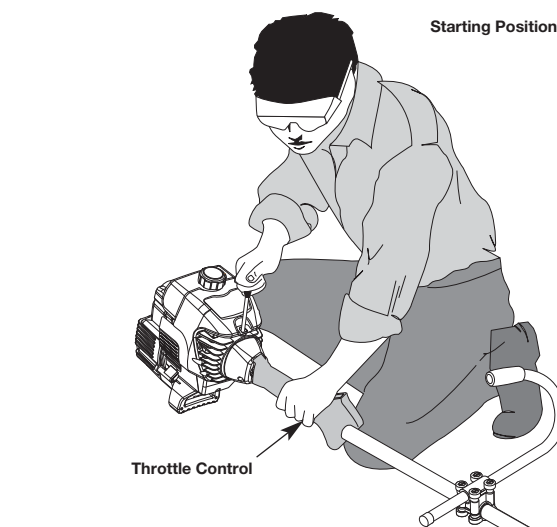

Fig. 21
WARNING: Avoid accidental starting. Make sure you are in the starting position when pulling the starter rope (Fig. 21). To avoid serious injury, the operator and unit must be in a stable position while starting. Make sure that any Add-On item is installed correctly and secure before starting the unit.
5. Crouch in the starting position (Fig. 21). Press the throttle lock-out in and squeeze the throttle control lever. Pull the starter rope out in a controlled motion 3 to 5 times to start engine.